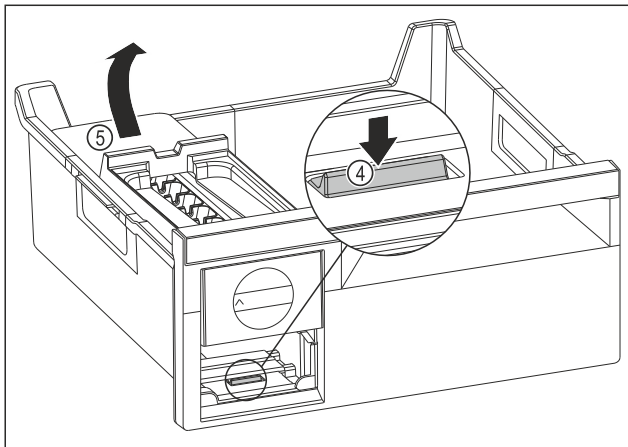

Fig. 212
- ▶ Removing the EasyTwist-Ice body: Use your finger to push the tab Fig. 212 (4) down and use your other hand to lift the EasyTwist-Ice body Fig. 212 (5) from behind at the same time.